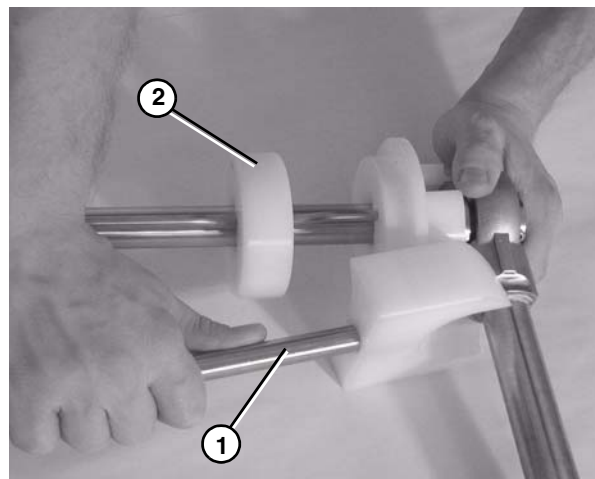

Figure 72
6. Remove the guard bar (**Figure 72, item 1**).
7. Remove the pucks (**Figure 72, item 2**).